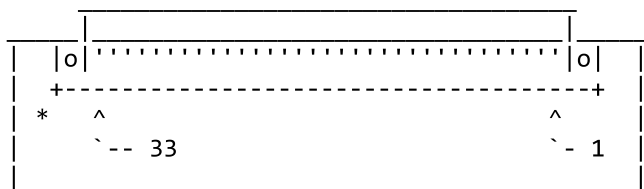

Figure 1.
17. Examine the area around the connector. See figure 1 below.